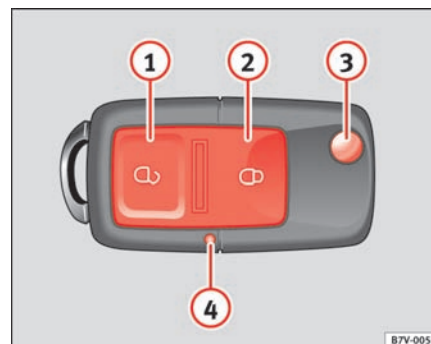

Fig. 61 Assignment of buttons on the remote control key
When the key is turned *once* in the driver's door lock, in the direction of opening, or when button ⇒ page 93, fig. 61  on the remote control key is pressed, only the driver's door will unlock.
- Press button  ⇒ fig. 61 ① on remote control to unlock all the doors and tailgate.
- Press button  ② on remote control to lock all the doors and tailgate.
When either of these buttons is pressed, the battery indicator lamp on the key ⇒ fig. 61 ④ lights up.
Using button ⇒ fig. 61 ③ on the control, the key shaft is released.
- Briefly press the open button  ⇒ page 93, fig. 61  once.
The vehicle can no longer be opened and closed with the remote control if you press button  ⇒ page 93, fig. 61  a long way outside the effective range of the radio wave remote control. The remote control key will have to be resynchronised.
If the battery indicator on the remote control ⇒ page 93, fig. 61  does not flash when the buttons are pushed, the battery must be replaced. ►
- Press button ⇒ page 93, fig. 61  to fold out the key bit.